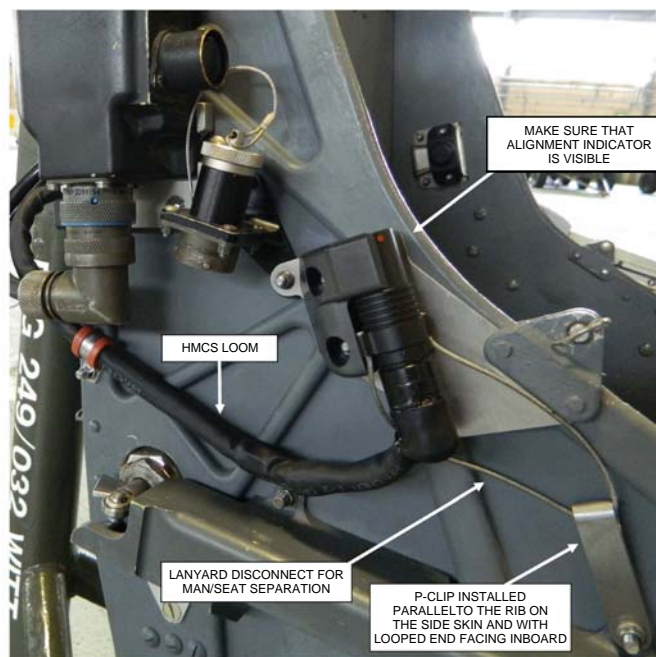

Fig. 3. Man/seat connection
- (iii) Ensure seat/man connector correctly fitted to retention clip with alignment indicator outboard and lanyard attached to ejection seat lanyard P-clip (Chap. 29-10, MP 29-10/3, Fig. 3)
(Chap. 29-10, MP 29-10/3, Fig. 3) |